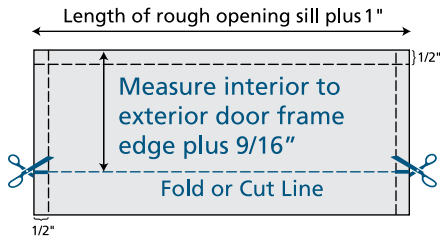

Fig. 3 Sill pan template
1. Prepare the sill pan as follows (**Fig. 3**):
2. Crease lines in sill pan using a straight edge as follows (**Fig. 3**):
3. Cut 1/2" in on both ends of this line (**Fig. 3**).